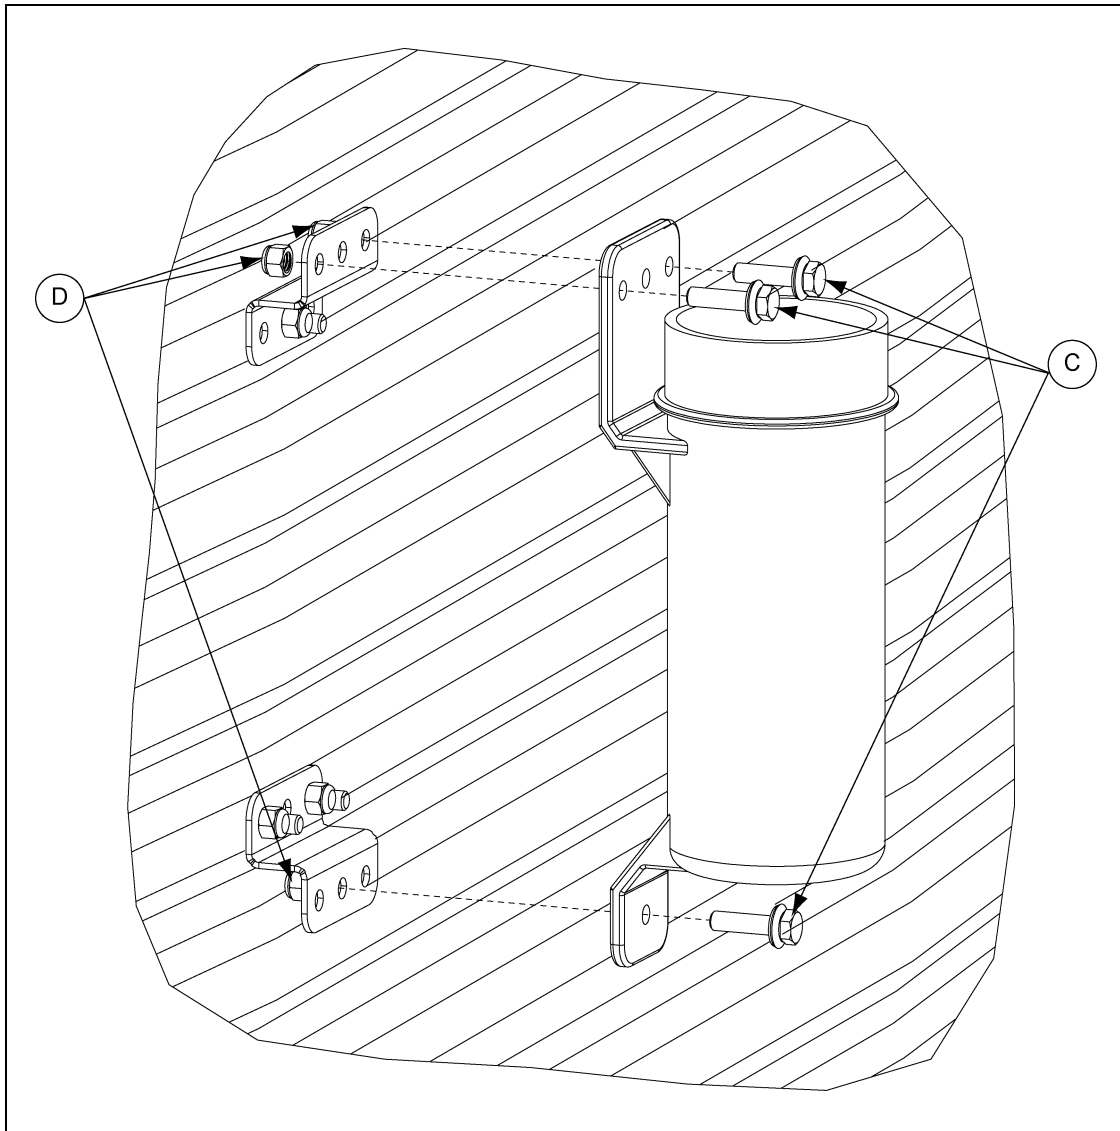

Figure 3C
8. Attach the canister to the canister bracket with three (3) 5/16"-18 x 1-1/4" bolts (C) and nylock nuts (D). *(See Figure 3C.)*